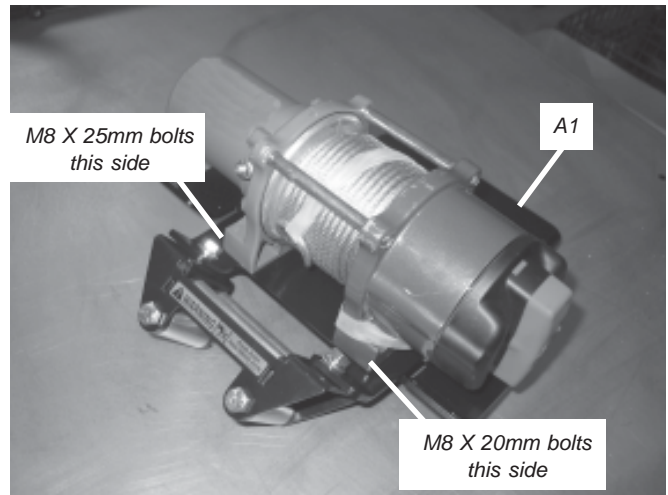

Figure 8 Initial Winch onto Mounting Bracket and Fairlead Bracket
- Mount a Warn winch to the mounting bracket (A1) with two M8 X 20mm and two M8 X 25mm bolts and lock washers supplied with the winch kit. The winch and mounting plate must be installed on top of the fairlead mounting bracket assembled in step 7. Mount the winch so that the motor faces the right side of the vehicle, figure 8.